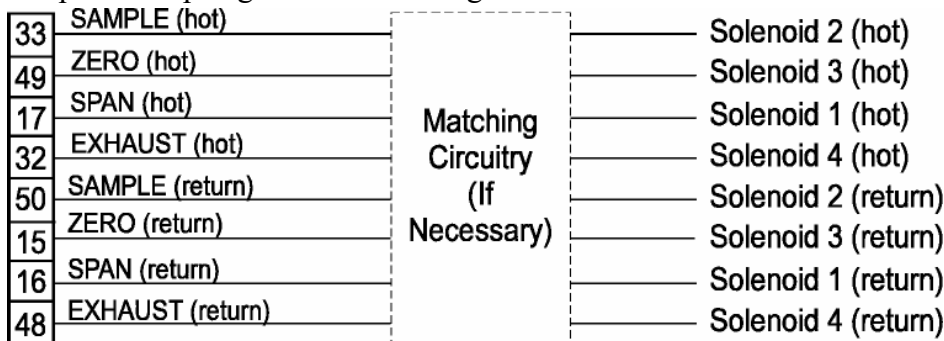

Figure 3-4: Remote Probe Connections
**Span:** Floating input. 5 to 24 V input across the + and – pins put the analyzer into the Span mode. Either side may be grounded at the source of the signal. 0 to 1 volt across the terminals allows Span mode to terminate when done. A synchronous signal must open and close external span valve appropriately. See Figure 3-4 Remote Probe Connector. (The –C option internal valves operate automatically.)
**Remote Valve Connections:** The standard analyzer is a single chassis instrument with no internal control valves. Instead, the Remote Valve connections are used as a method for directly controlling external sample/zero/span gas valves. See Figure 3-4.